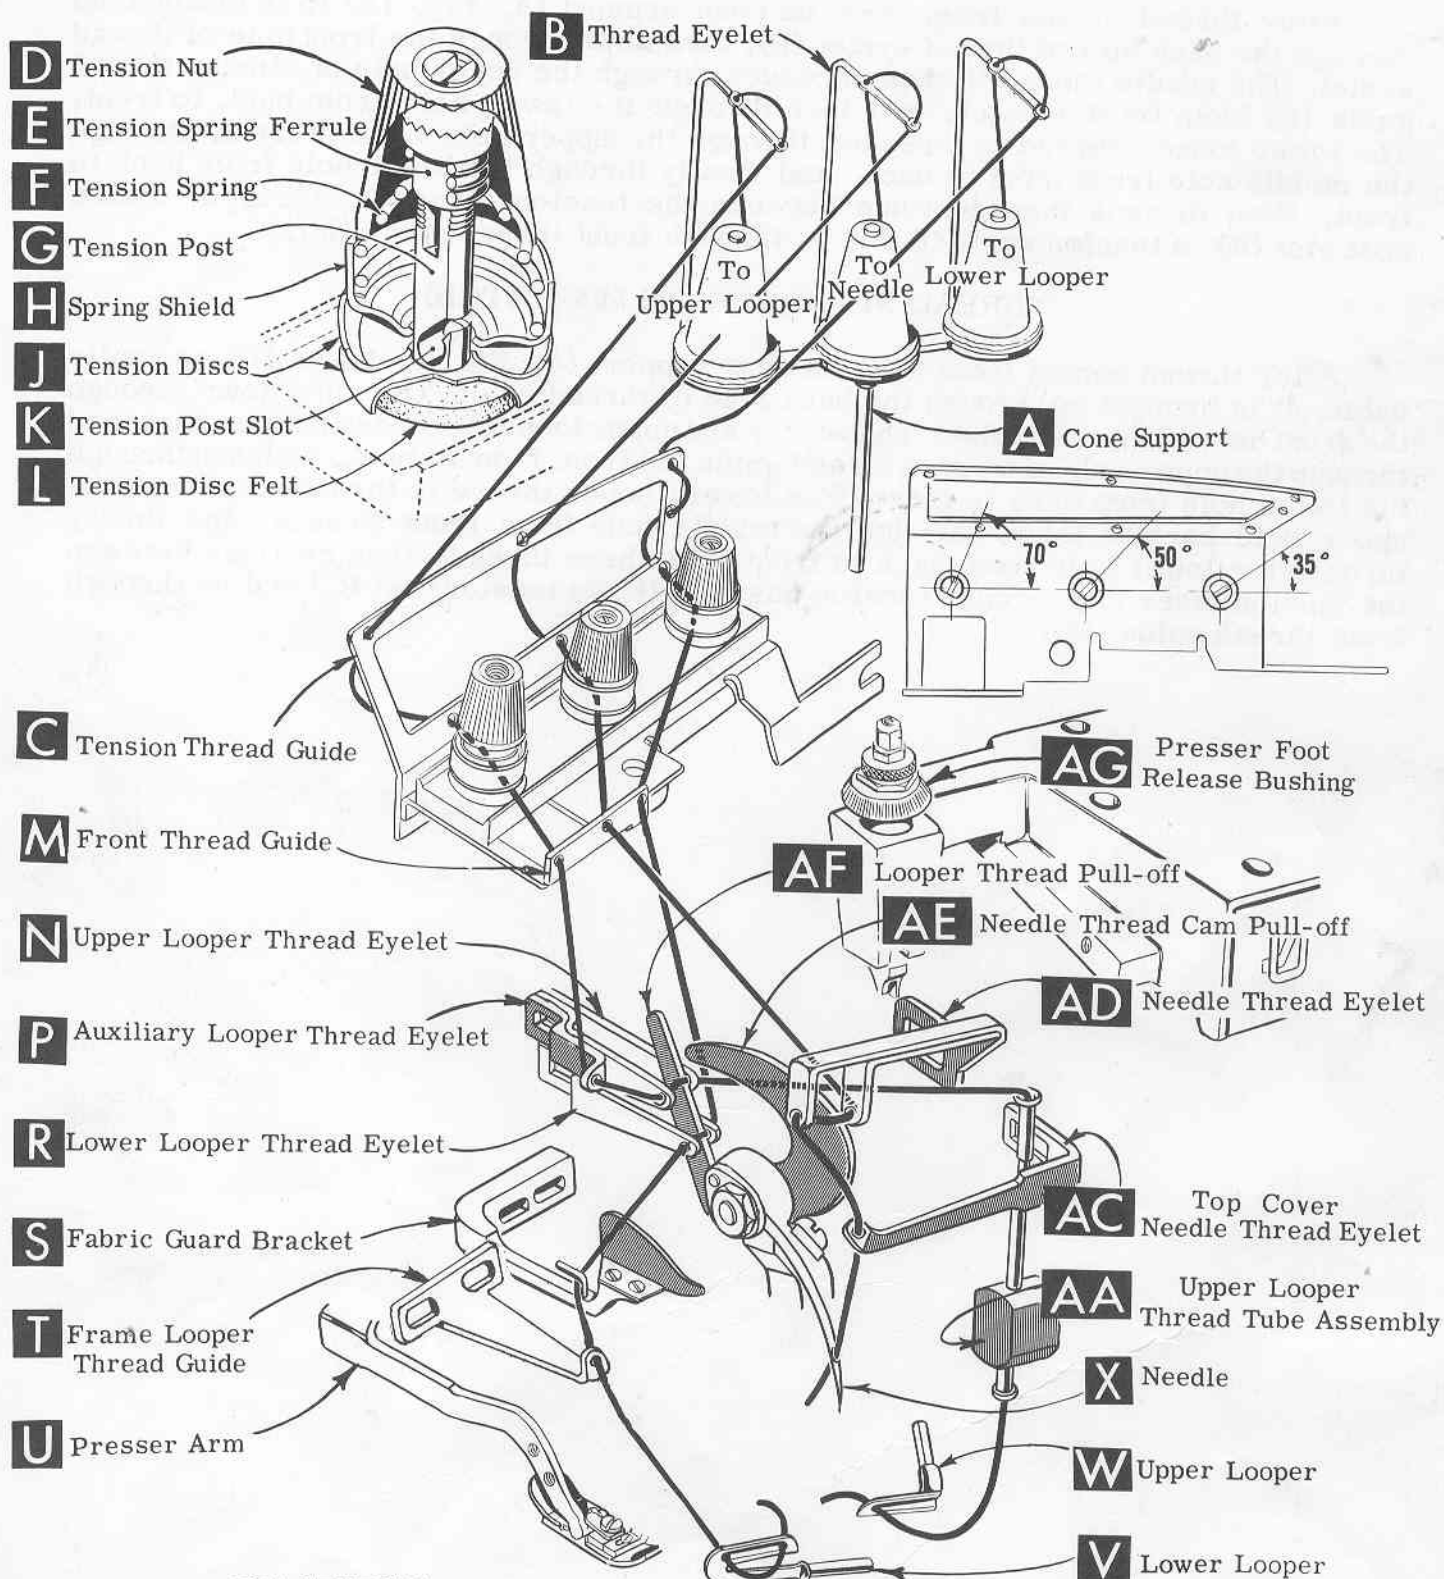

Fig. 1
Release pressure on presser foot by turning presser foot release bushing (AG, Fig. 1, 1A, 1B or 1C) and swing presser arm (U) out of position. Turn handwheel in operating direction until needle is at its lowest point of travel. Using hexagonal socket wrench No. 21388 AU, furnished with machine, loosen needle clamp nut about 1/4 turn. Again turn handwheel until needle is at high position; withdraw needle.
After thread comes from cone on cone support (A, Fig. 1, 1B or 1C) as applicable. It is brought up through the back hole of thread eyelet (B), then down through the front hole of thread eyelet. The needle and upper looper threads are then threaded through the upper hole of tension thread guide (C) from front to back, and then through the lower hole from back to front. The lower looper thread is threaded through the upper hole back to front, through the middle hole from front to back, and finally through the lower hole from back to front. All three threads then continue between the tension discs (J), through tension post slot (K) in tension post (G) and on through front thread guide (M).
Only parts involved in threading are shown in threading diagrams (Fig. 1, 1A, 1B and 1C). Parts are placed in their relative positions for clarity.
It will simplify the threading of these machines to follow the recommended sequence of threading the lower looper first and the needle second when using the 503 stitch (Fig. 1A). The recommended sequence when using the 504 or 505 stitch (Fig. 1, 1B and 1C) is to thread the lower looper first, upper looper second, and the needle third.
Double end of thread and lead it through the right eyelet of front thread guide (M, Fig. 1, 1A, 1B or 1C). Then lead thread through both eyes of lower looper thread eyelet (R, Fig. 1, 1A, 1B or 1C) from right to left. NOTE: Thread must pass in front of looper thread pull-off (AF). Lead thread behind fabric guard (S) and through frame looper thread guide (T). Turn handwheel in operating direction until heel of lower looper (V) is all the way to the left, then thread through both eyes from left to right. Left eye of lower looper can be threaded easily if tweezers are in left hand.
Thread needle thread through middle eyelet of front thread guide (M). Then turn handwheel in operating direction until needle (X, Fig. 1, 1A, 1C) is at its highest position. Insert needle thread from right to left, through both eyes of needle thread eyelet (AD), under neck of top cover casting; then down through hole in top cover needle thread eyelet (AC). Thread needle from front.
The amount of tension on the needle and looper threads is regulated by knurled tension nuts (D, Fig. 1, 1A, 1B, 1C). Tension on threads should be only enough to secure proper stitch formation.